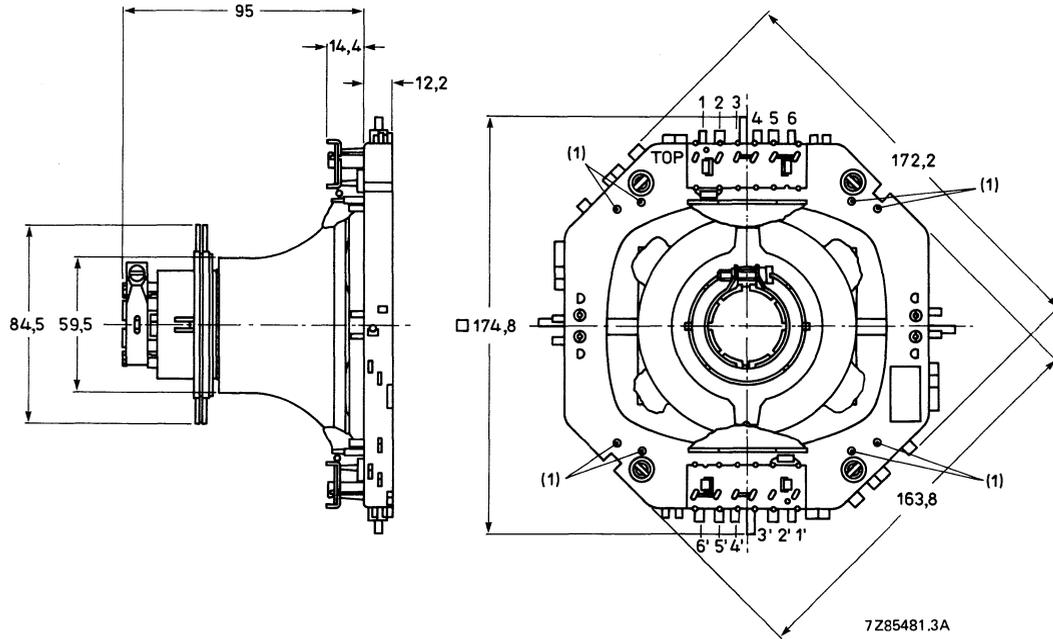
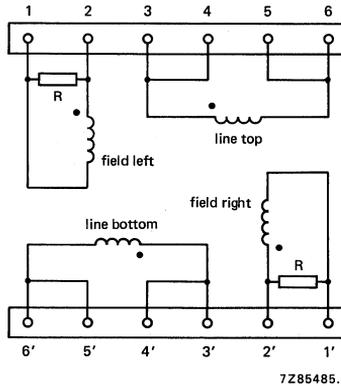

Fig. 1 Deflection unit AT1039/09.
Fig. 2 Diagram of line and field coils; R = 270 Ω . The beginning of the windings is indicated with •.
If a further improvement of raster geometry is required use can be made of correction magnets*, which must be fitted to mounting posts (1). The unit has solder pins for connection. The pin numbering in Fig. 1 corresponds to that in Fig. 2.